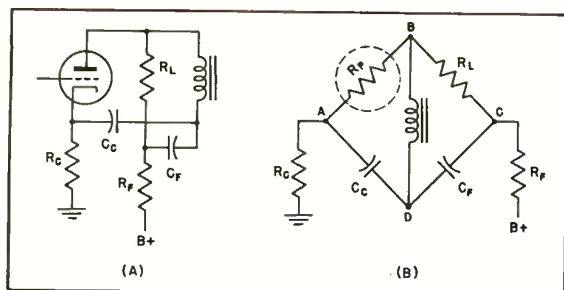

Fig. 5. Bottom-connected isolating capacitor (A), and rearrangement of elements in bridge form (B) to show hum balancing effect.
keep d.c. out of the transformer primary, with the capacitor C₃ isolating the plate voltage from the transformer. Normally it is considered more desirable to place the capacitor between the low end of the primary and the cathode, as shown at (A) of Fig. 5, since this arrangement constitutes a bridge which balances out hum components in the plate supply. Referring to (B), R_p represents the plate resistance of the tube, R_L the shunt-feed resistor, C_p the coupling capacitor, and C_d a decoupling capacitor. The hum component of the